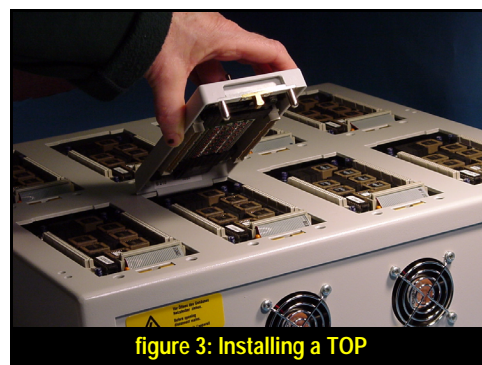

figure 3: Installing a TOP
3. Holding the TOP right side up and at a 45 degree angle to the base, hook the plastic tab of the TOP into the notch in the base. See figure 3.